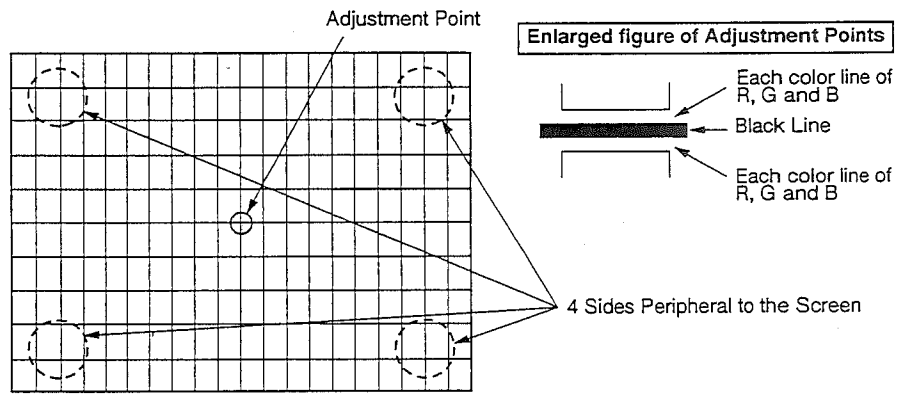

Fig. 1
9. Turn each front Lens of Green, Red, and Blue CRT Assemblies to adjust so that the enlarged figure shown in Fig. 1 is best focused when producing a Green or Red or Blue monochrome picture.
10. Confirm if the black line is visible in the entire screen in Fig. 1.